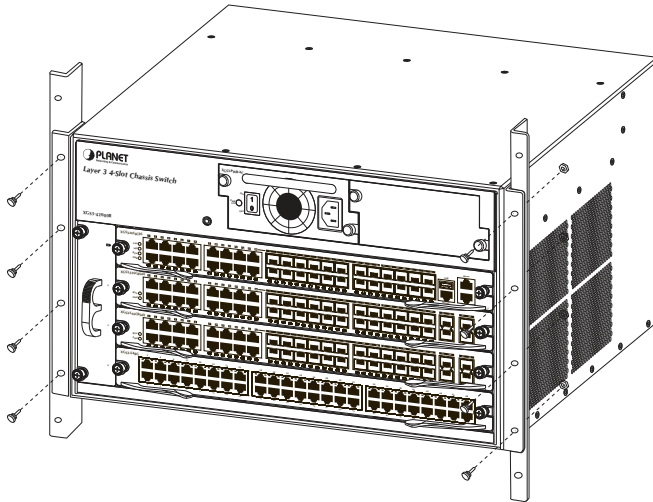

Figure 3-2 Mounting the XGS3-42000R in a Rack
Step 5 After the brackets are attached to the XGS3-42000R, use suitable screws to securely attach the brackets to the rack, as shown in Figure 3-2.